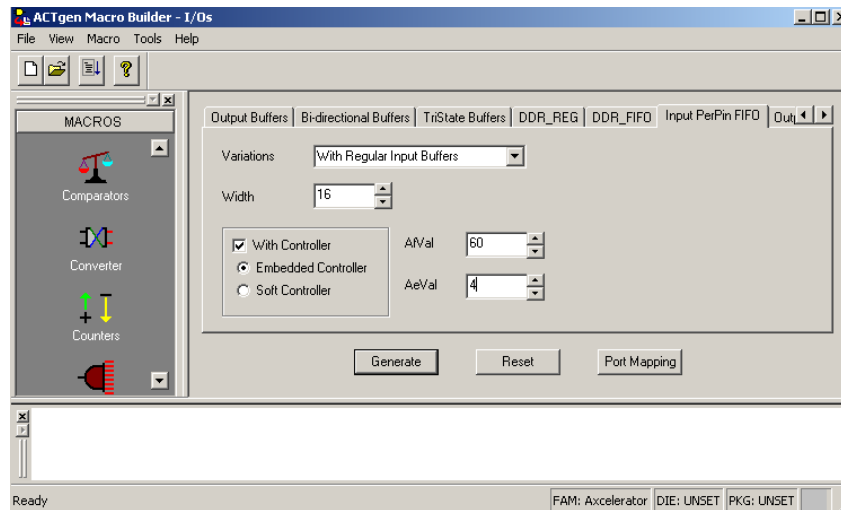

Figure 11 • Selecting Input PerPin FIFO Controller Option
- If the Controller box is checked (Figure 11 on page 6).
- Select the Output IOFIFO tab (Figure 11).